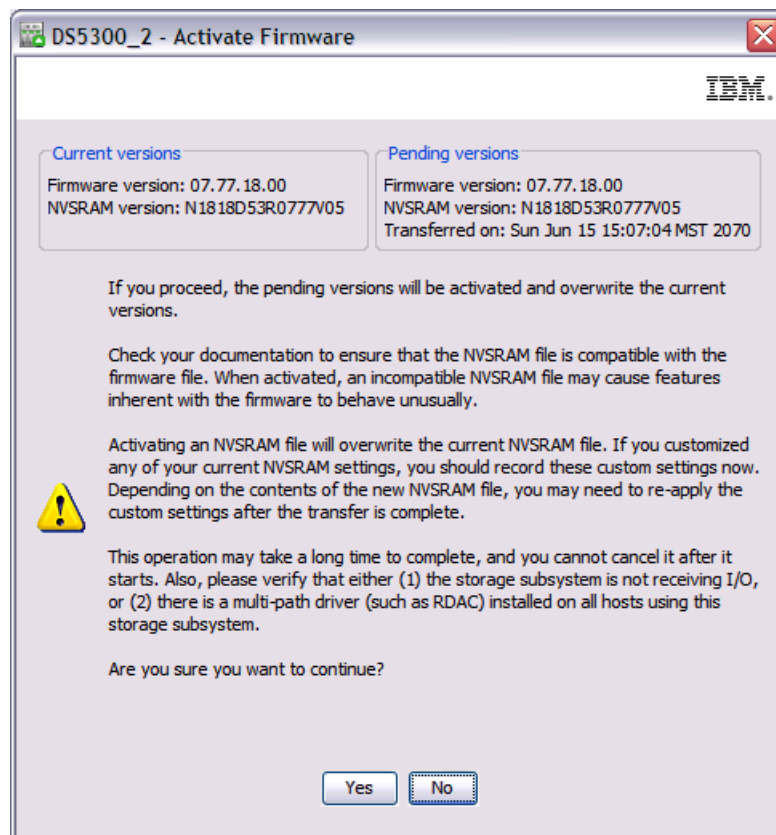

Figure 5-13 Activation firmware confirmation
8. The Activate Firmware window opens and asks you for confirmation to continue, as shown in Figure 5-13. Click **Yes**.